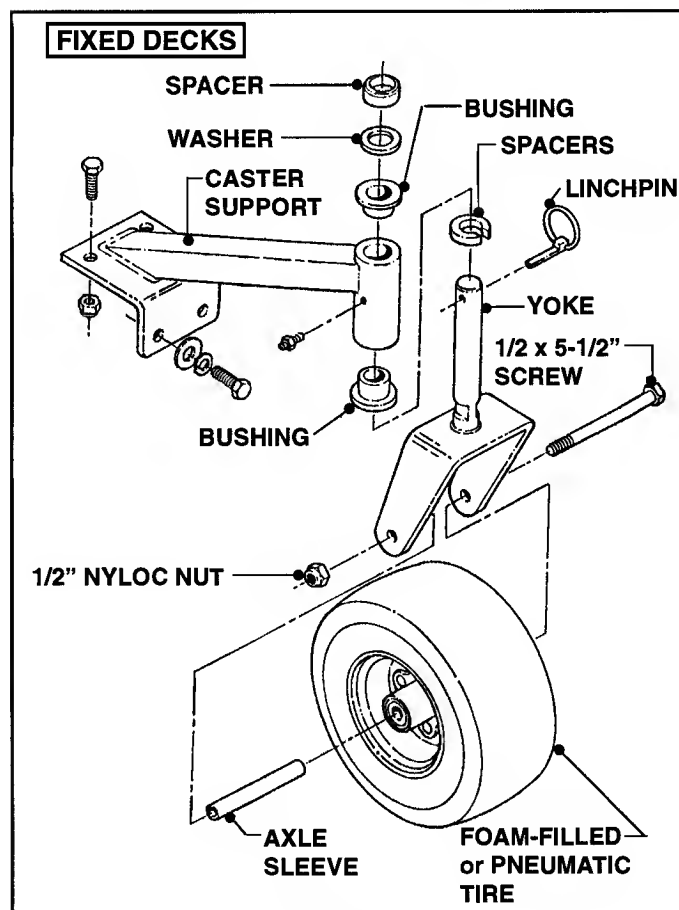

FIGURE 3.1
- A. Remove 1/2" nyloc nut. See Figure 3.1.
- A. Remove 1/2" nyloc nut. Refer to Figure 3.1.
- A. Separate wheel from yoke by removing the 1/2 nyloc nut and 1/2 x 5-1/2" screw. Refer to Figure 3.1.
On some Caster Wheel Assemblies, there is a washer located between the top spacer and top bushings. Replace washer as required. Refer to Figure 3.1.